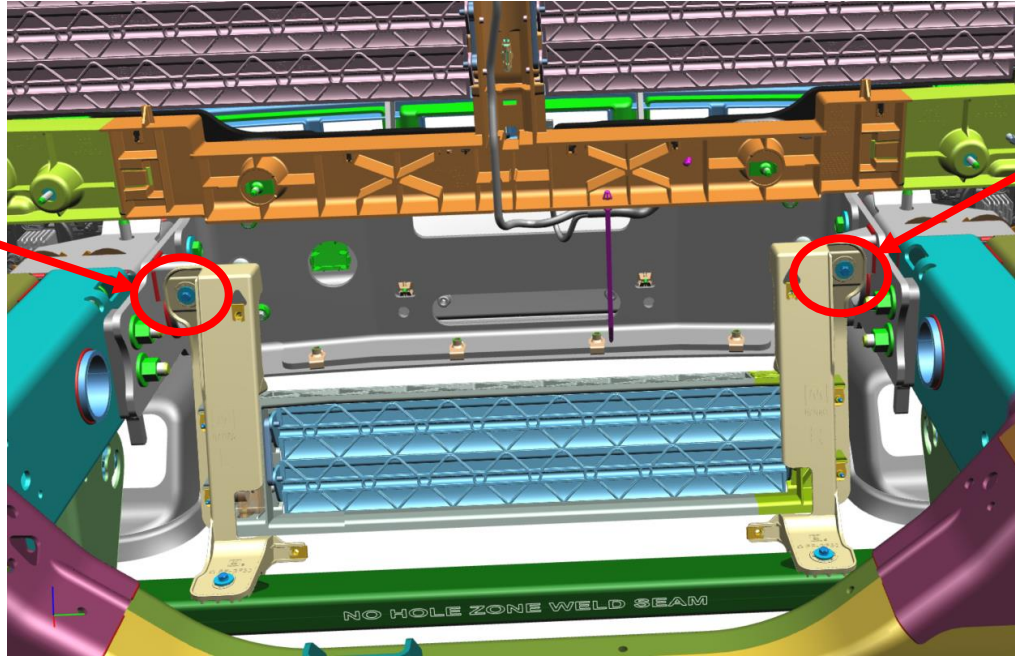

Figure 11 – Backside AEV GMC Front Bumper and Shutter-Baffle
- Install [1] M4 Bolt (M7 Socket) per side – Fig. 11